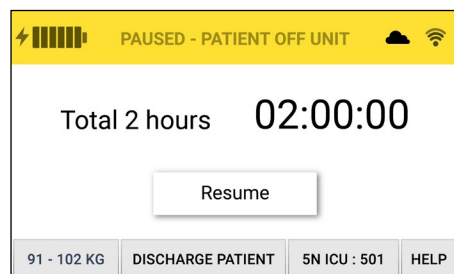

Figure 13. Paused - patient off unit screen (standard)
5. The Paused - Patient Off Unit screen will display the new remaining pause time and indicate that the patient is off unit for an extended period of time. (Fig. 13 & 14)